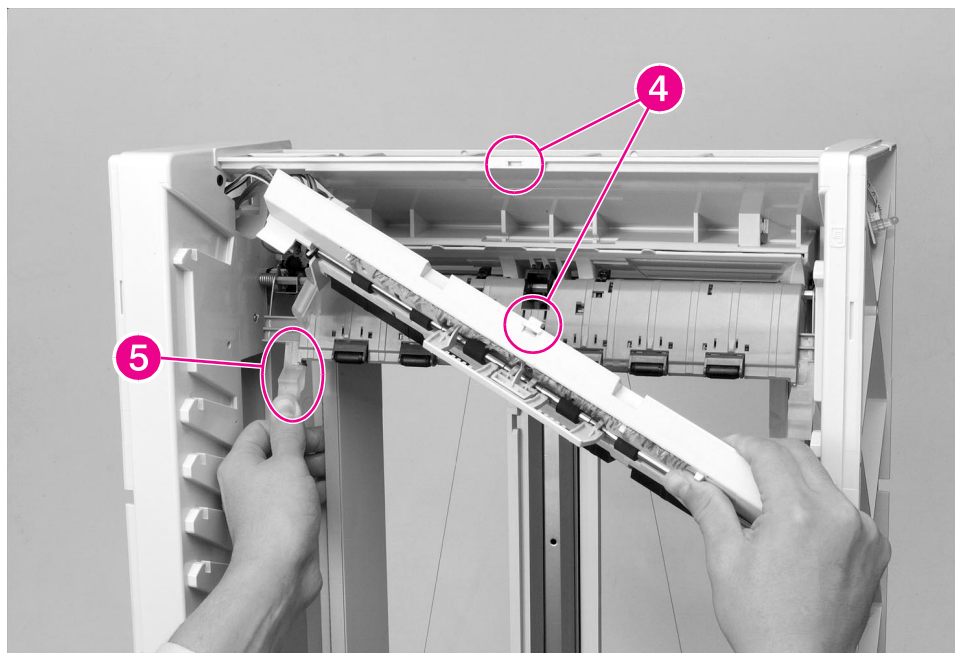

Figure 6-158 8-bin Mailbox Flipper Assembly (3 of 3)
- 6 Using a flat-blade screwdriver, release the plastic retaining tab that secures the Flipper Assembly to the top of the 8-bin Mailbox frame (Figure 6-158, callout 4).
- 7 Hold down the Jam Access Door, and pull out the Flipper Assembly (Figure 6-158, callout 5).